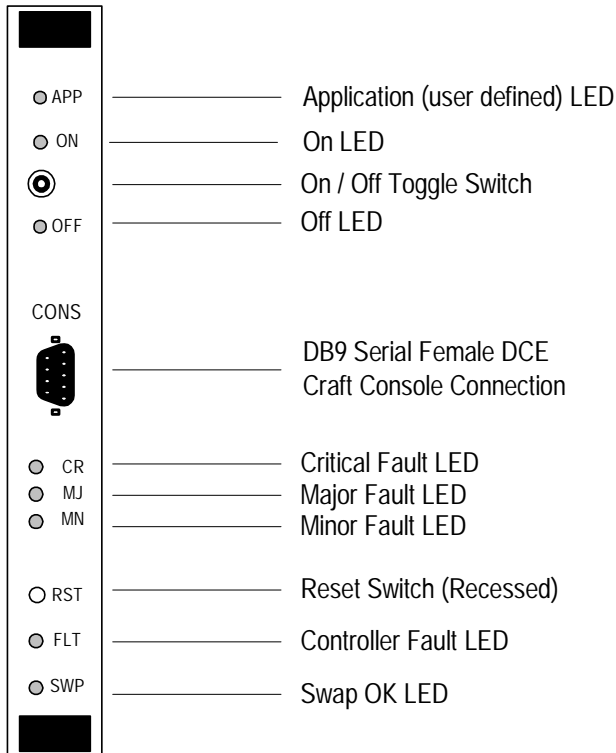

Figure 7 CCN front panel
1. Locate the On/Off toggle switch on the CCN front panel. See Figure 7 for location details.
- Locate the On/Off toggle switch on the CCN front panel. See Figure 7 for location details. **Note:** This switch utilizes a locking mechanism to avoid accidental actuation. Pull the switch lever out and push up or down as needed.